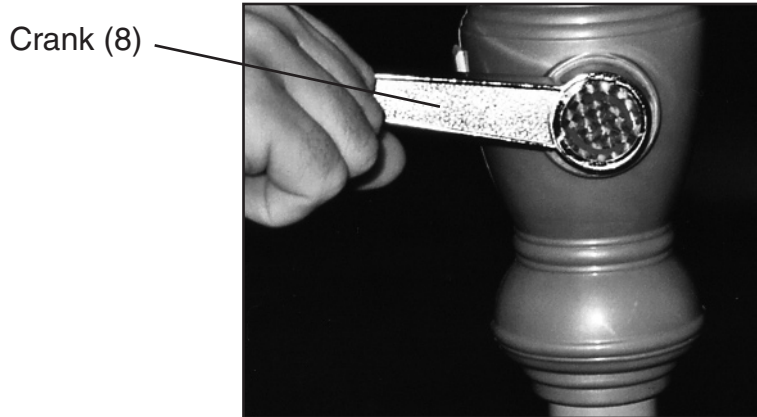

Figure 2
4. To assemble, insert Lower Pole (2) with its threaded end upward, securely into a heavy duty umbrella stand (not included).
5. Screw the Upper Pole (1), with its pre-attached upper umbrella assembly, securely into the Lower Pole (2). **Caution: DO NOT attempt to use this Umbrella in moderate or high wind conditions. Doing so may cause personal injury and/or damage to the Umbrella and personal property.**
6. Hand-crank the Crank (8) clockwise in order to raise the hub above the self-locking safety lock, thereby locking the upper umbrella assembly into place. (See Figure 2, next page.) The Solar Umbrella is now ready for use.